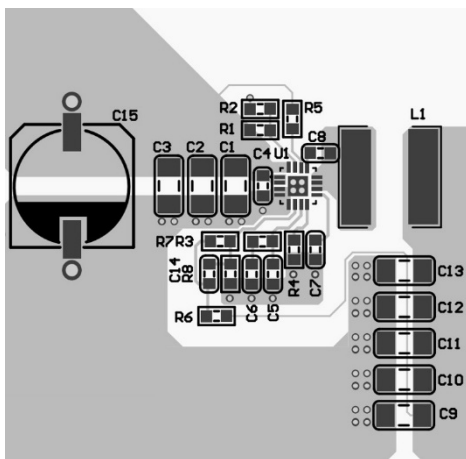
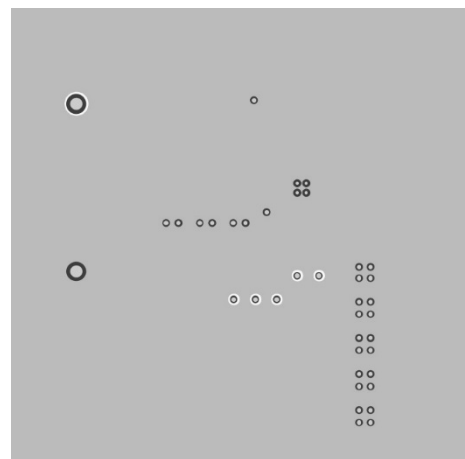

Figure 10. Top Layer
Figure 11. Bottom Layer
For the SGM61060, 50kHz is selected as the crossover frequency. From the Figure 10, the gain at 50kHz is -9.816dB and the phase is -125.663 degrees. The error amplifier gain set by R_3 is required to compensate power stage for +11.35dB at f_c , and the value can be calculated from Equation 27.
It can be seen from Figure 10 that DC gain is 19dB and -3dB is at 2.295kHz. C_6 sets the location of the compensation zero along with R_3 . To place this zero on the converter pole, use Equation 28.
- Layout is a critical portion of good power supply design. See Figure 10 and Figure 11 for a PCB layout example.